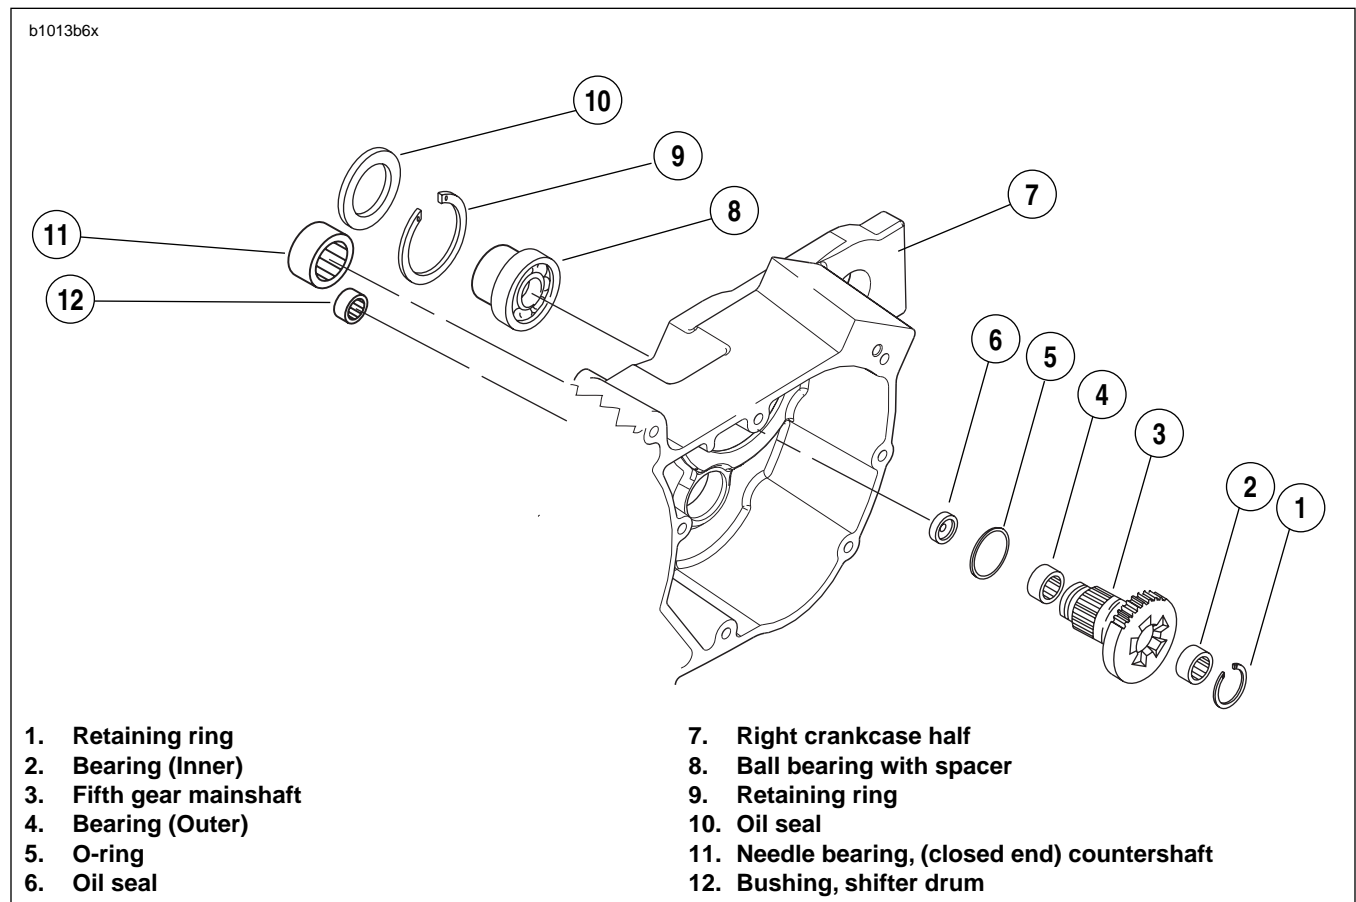

Figure 6-84. Transmission Assembly-Right Crankcase Half
- See Figure 6-84. From inside transmission case use a suitable BEARING DRIVER/PULLER to remove countershaft bearing (11) from crankcase bore.
- See Figure 6-84. From the outside of the case place the needle bearing (11) open end first next to the bearing bore. Hold the driver squarely against the closed end of the bearing and tap the bearing into place. The bearing is properly positioned when it is driven flush or 0.030 in. (0.762 mm) below the outside surface of the case.
- See Figure 6-84. Using SNAP-ON BUSHING DRIVER SET (Part No. A-157C) with a 1/2 inch adapter (Part No. A157-8), install **new** bushing (12).